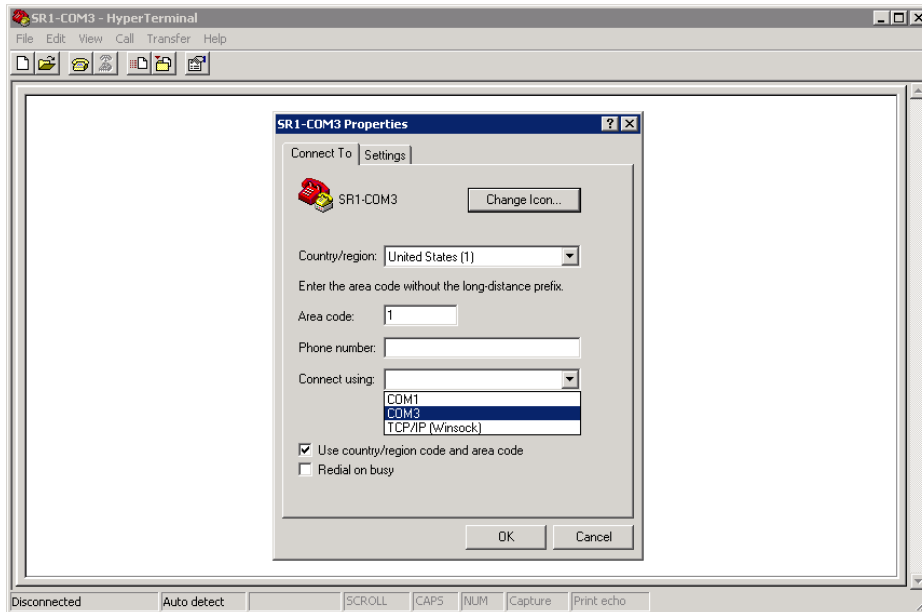

Figure 6 - SR1 Terminal COM Port Selection
- Figure 6, below demonstrates how to use Windows® HyperTerminal: